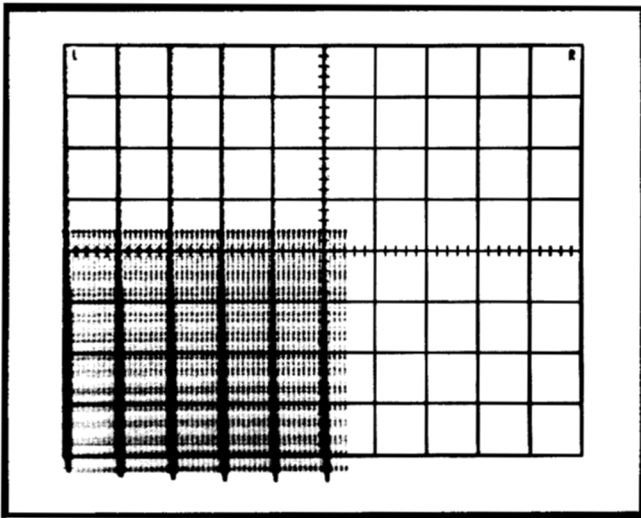

Fig. 5-4. Typical CRT display when checking sweep length.
- d. CHECK—CRT display sweep length for 10.4 divisions within 0.3 division; see Fig. 5-4. (There should be between one and seven .1 ms markers past the eleventh 1 ms marker.)